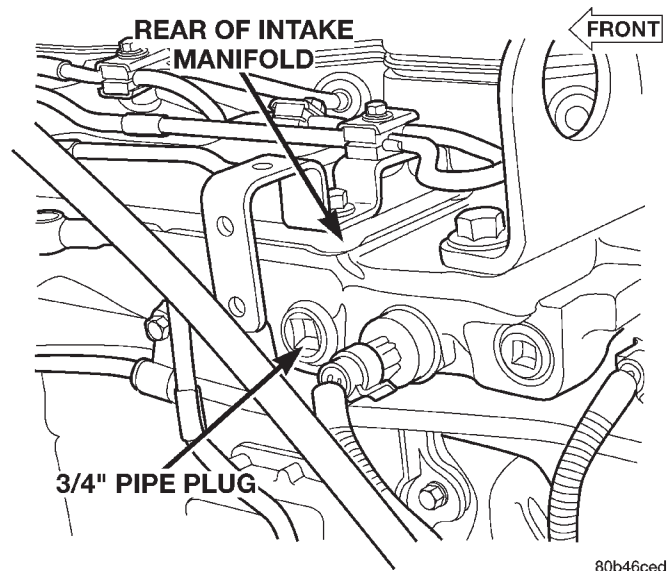

Fig. 18 Boost Pressure Test at Intake Manifold
(2) Remove 3/4" pipe plug fitting at rear of intake manifold (Fig. 18). Temporarily replace this fitting with fitting reducer to adapt to pressure gauge. **Note: This pipe plug is located to front of MAP sensor. Do not remove plug to rear of MAP sensor. This is a COOLANT passage plug.**